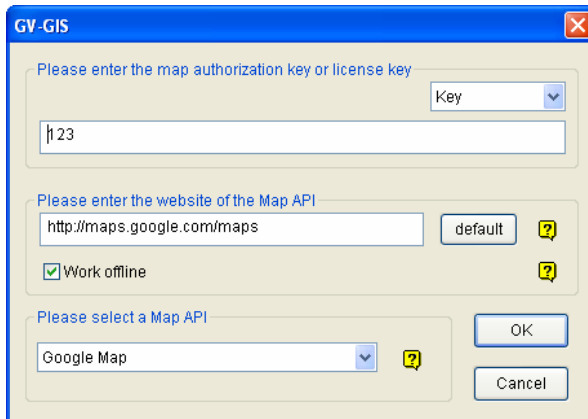

Figure 11-90
1. If you like to use the maps created yourself, overwrite the files at :\\GV folder\\GIShtm-User, and select **User Defined** from the “Please Select a Map API” drop-down list (Figure 11-90).